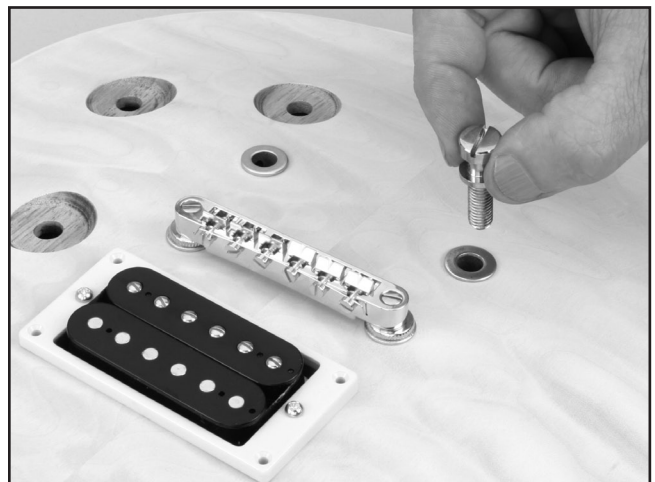

Figure 25. Tailpiece adjustment screw.
7. Thread the bridge adjustment screws into the inserts as shown in **Figure 25**.